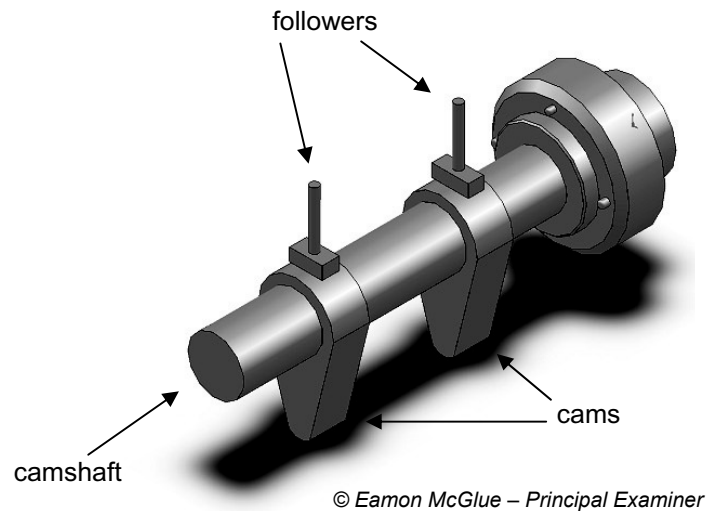

Fig. 3(a)
With reference to the camshaft, shown above in **Fig. 3(a)**:
- (ii) The camshaft in **Fig. 3(a)** rotates at 180 rev/min, with a torque of 2.25 N m. Calculate the power expended. [3]